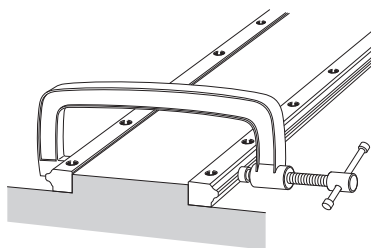

Fig.22
(2) Use a small vice to press the two LM rails to the base so that they closely contact the reference surface, then tighten the mounting bolts to the recommended torque (see **B1-101**). (Fig.22)